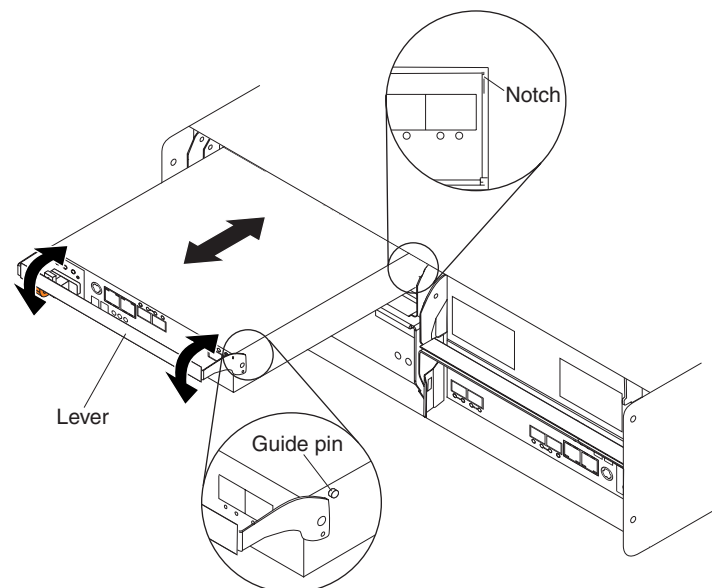

Figure 76. Installing a controller
- a. Slide one controller into the empty slot in the storage subsystem. Be sure that the lever is pulled straight out as you slide the controller in, as shown in Figure 76.